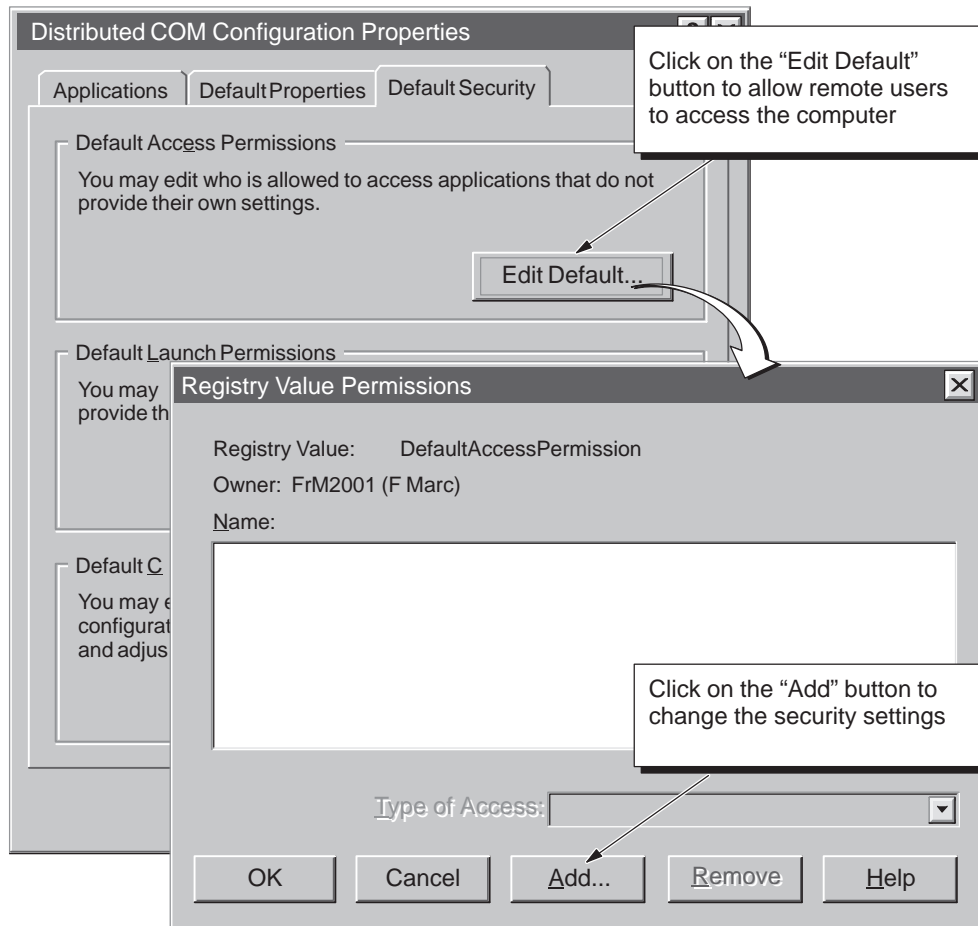

Figure E-15 Configuring the Default Access Permissions for DCOM
1. Click on the “Default Security” tab to display the security options for DCOM. See Figure E-15.
8. Click on the “OK” button of the “Registry Value permissions” dialog box to enter the changes to the default access permissions. The “Registry Value permissions” dialog box closes and displays the “Distributed COM Configuration Properties” dialog box (Figure E-15).